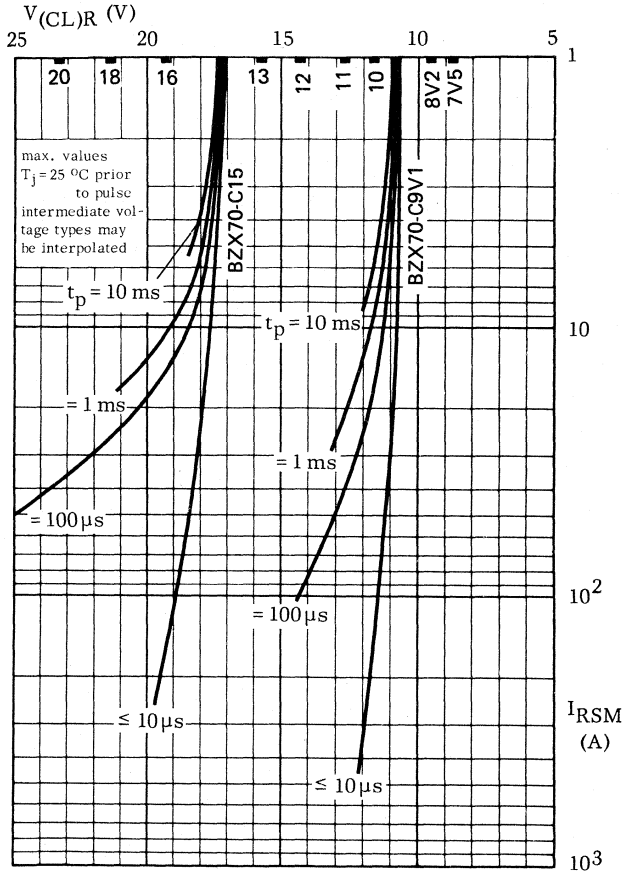
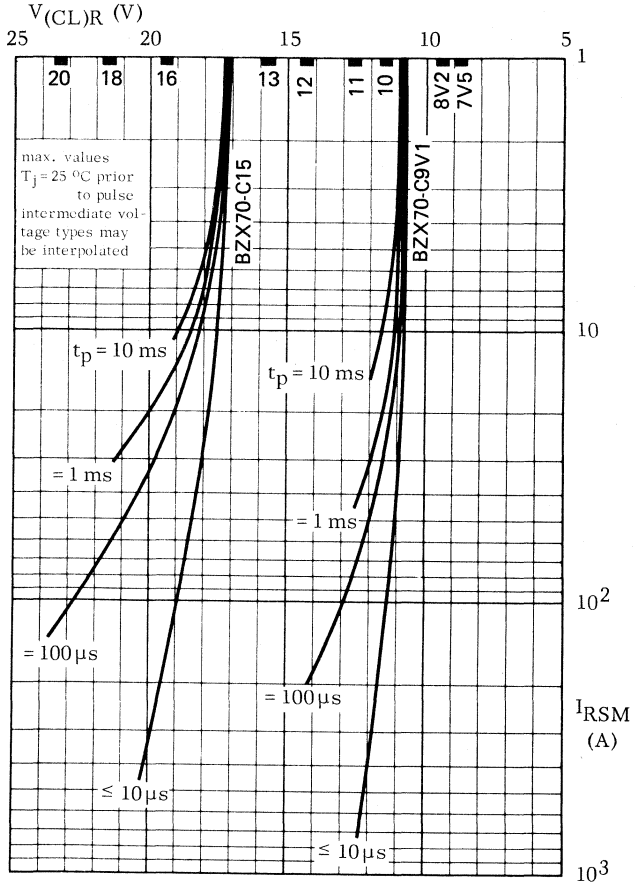

Fig. 19 Square pulses.
Fig. 21 Exponential pulses.
2. Maximum clamping voltage is the maximum reverse avalanche breakdown voltage which will appear across the diode at the specified pulse duration and junction temperature. For square pulses see Figs 19 and 20, for exponential pulses see Figs 21 and 22.